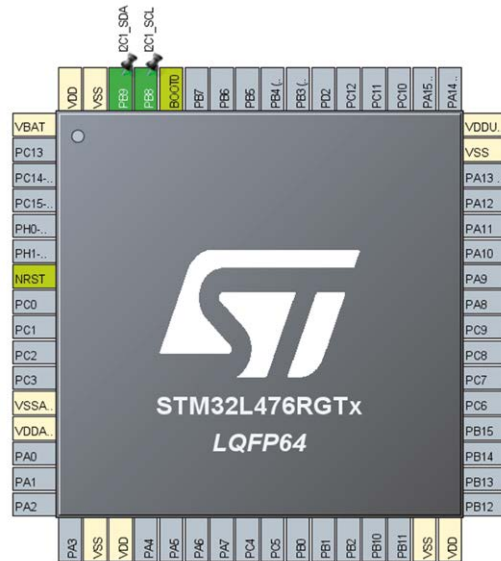

Figure 12.7: Configuring PB8 and PB9 as I2C pins.
- Click on pins PB8 and PB9 on the pin diagram in the middle of the screen and select I2C1\_SCL and I2C1\_SDA as shown in Figure 12.7.